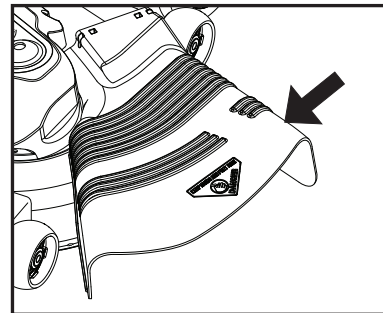

Fig. 11
**CAUTION: Do not operate the mower without either the entire grass catcher, on mowers so equipped, or the deflector chute in place (See Fig. 11).**